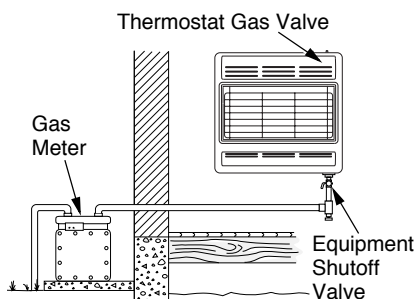
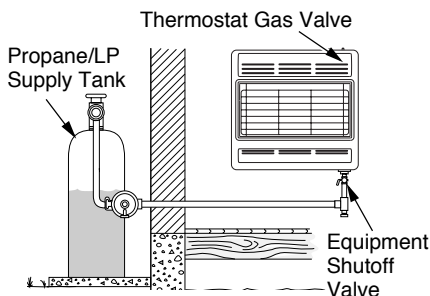

Figure 17 - Checking Gas Joints for Natural Gas
Figure 18 - Checking Gas Joints for Propane/LP Gas
3. Check all joints from gas meter for natural gas (see Figure 17) or propane/LP supply tank for propane/LP gas, to equipment shutoff valve (see Figure 18). Apply a noncorrosive leak detection fluid to all joints. Bubbles forming show a leak.
4. Check all joints from equipment shutoff valve to thermostat gas valve (see Figure 17 or 18). Apply a noncorrosive leak detection fluid to all joints. Bubbles forming show a leak.